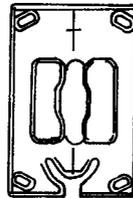

FIGURE 9. Spacer
**2.11 Spacer (Figure 9):** The spacer adapts the 630A type jacks to wall surface mounting with surface wiring or concealed wiring. The 630A jack mounts on top of the spacer.